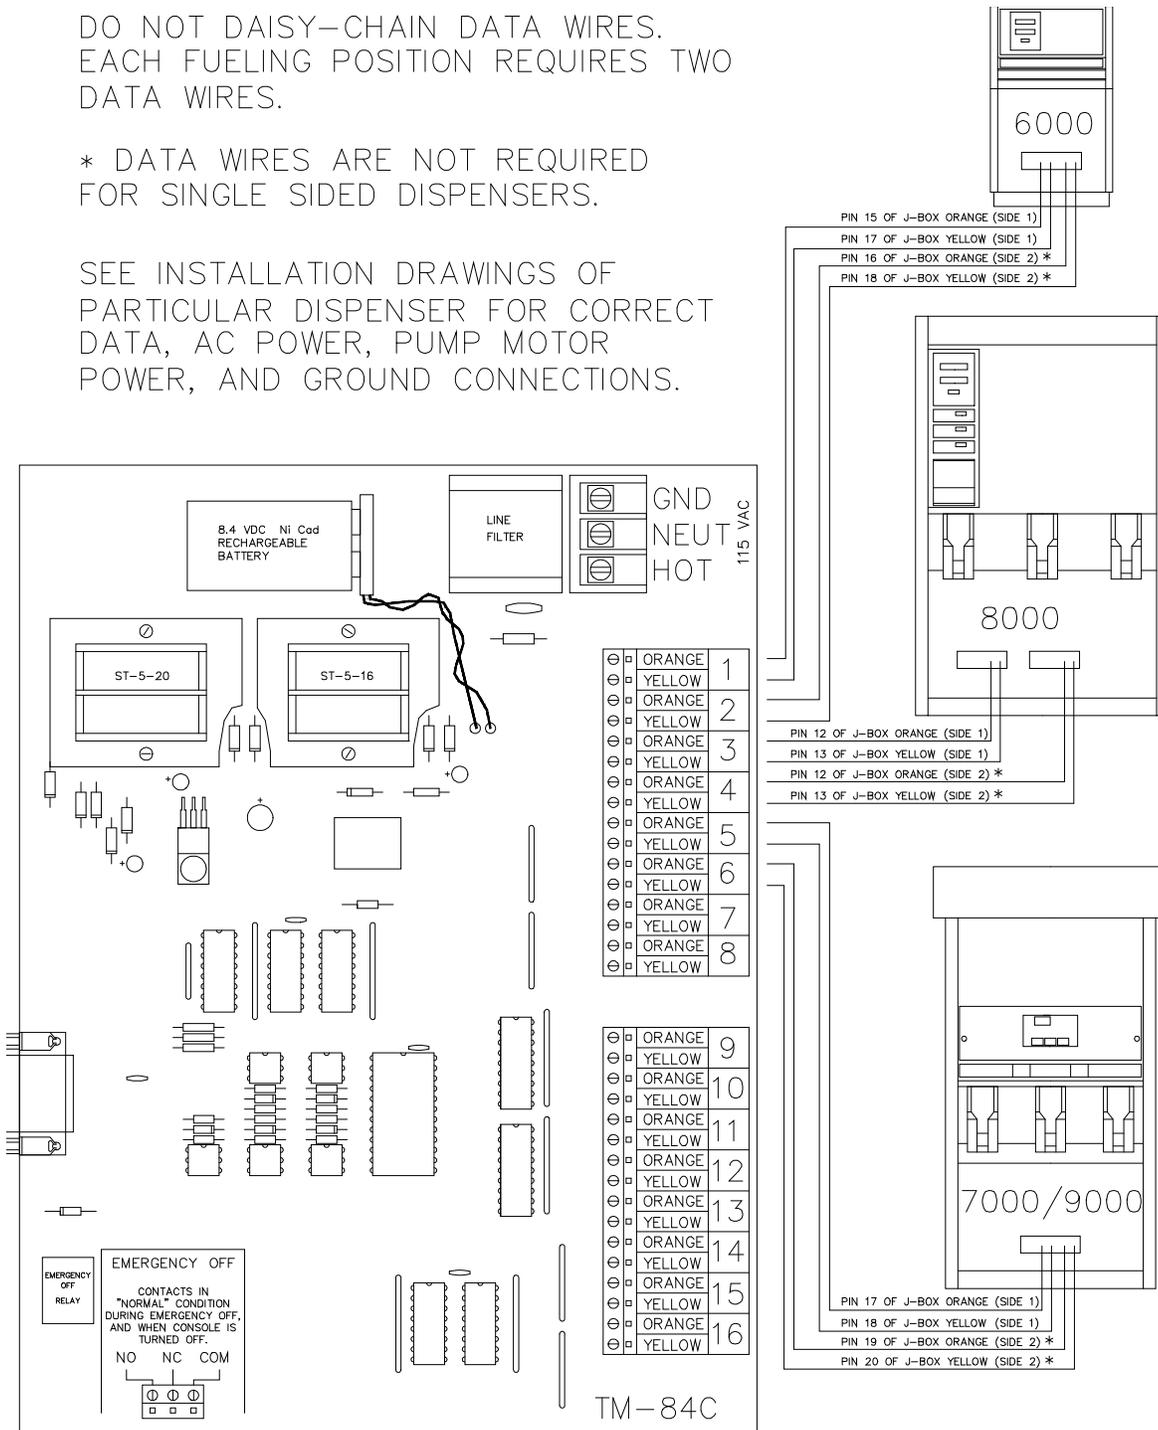

Figure 2. Wiring Diagram for TMS MPC Systems Controlling Bennett Electronics
2. Connect the Tokheim pump/dispenser data wires to the MPC-TM84 communication board terminal strips in the TMS MPC for BENNETT IC box shown in fig. 2 on page 4.
Refer to figure 2 to connect a TMS-47 mechanical cable to a hybrid MPC console with one mechanical IF Board.
14. Figure 2 on page 4 shows the Emergency Off connector located in the TMS MPC for TOKHEIM IC Box. The EMERGENCY OFF spdt relay is for pilot duty only (max. 1A @ 115VAC). The connector provides a dry contact relay closure across COM and NO when the console is ON and the "EMER OFF" switch has not been activated (EMER OFF light not blinking). The relay is in its normal (de-energized) state and breaks this connection whenever: